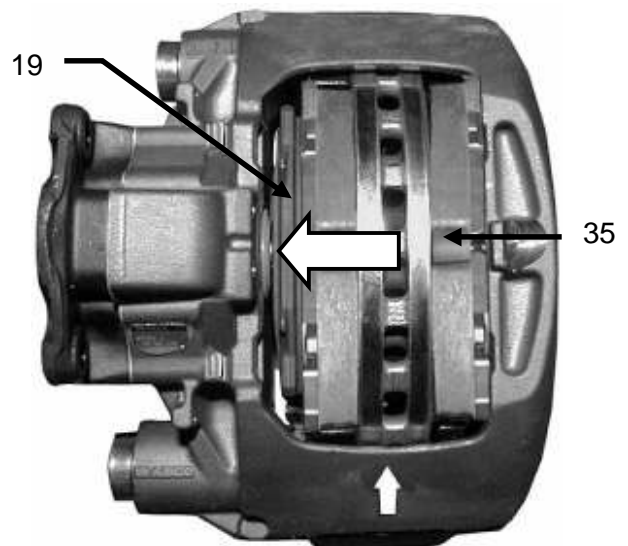

Fig. 17
**Caution: When de-adjusting, push back the spreader plate 19 (arrow Fig. 17) by hand at the same time to ensure the pin in the adjuster screw remains engaged in the slot in the spreader plate; otherwise there is a danger that the adjuster screw will turn, thereby damaging its gaiter!**